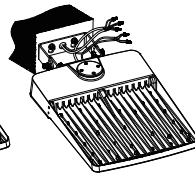

Figure 4-3
Step3: Connect the input wires of the fixture to the mains properly, Figure 4-3;